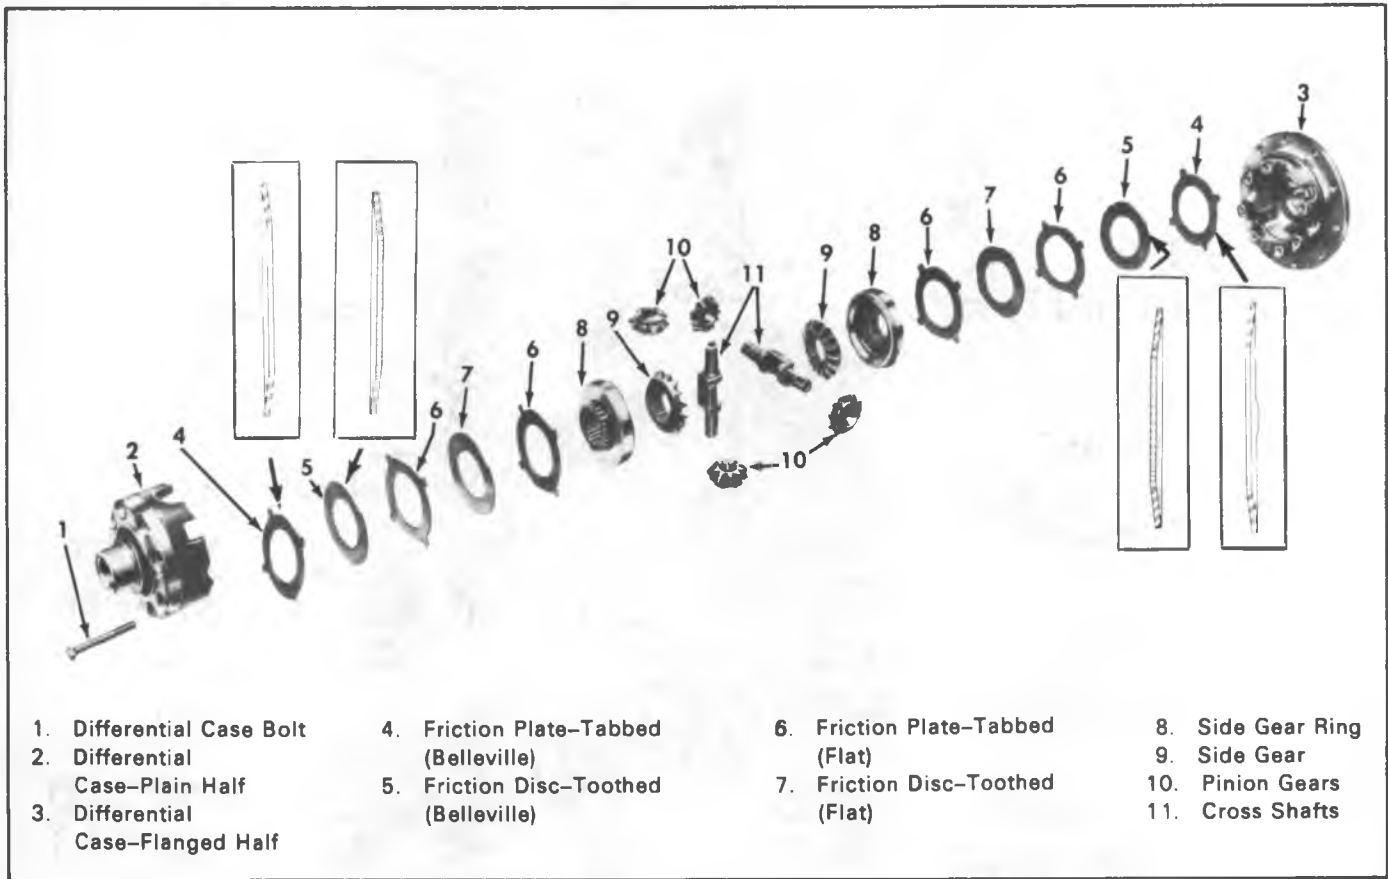

Fig. 17E--Power-Lok Differential
There are four optional Positraction differential units, namely Chevrolet, Eaton, Borg Warner and Dana Power-Lok. The Dana Power-Lok, shown in Figure 17E, is used only on Truck models and has its own repair procedure.
The Power-Lok differential shown in Figure 17E is a unit which is installed as optional equipment in place of the standard differential. The locking differential permits the major driving force to be transmitted to the wheel with better traction. This means that the vehicle can be operated on ice, snow, sand or under other adverse conditions with a minimum amount of slippage through one wheel.
**NOTE: A series of clutch plates and dished (Belleville) friction plates on each side of differential side gears transmits drive from differential case to axle shafts. Carefully observe the order in which the plates are used, since they must be replaced in the same order. Refer to Figure 17E.**
1. Place tabbed Belleville friction plate (4) in flanged differential case, being extremely careful that convex (bulged) side is toward the side gear. See Figure 17E.
2. Assemble remaining plates and discs to splines of side gear ring, being sure they are assembled in the same order of removal. The convex (bulged) side of the Belleville friction disc (5) should be toward the side gear and it should nest into the Belleville friction plate (4).
5. In the order listed install the following: (1) side gear, (2) side gear ring, (3) flat plate with tabs, (4) flat disc with teeth, (5) flat plate with tabs, (6) Belleville disc with convex (bulged) side up, or toward side gear, (7) Belleville plate, with convex (bulged) side up, or side toward gear.